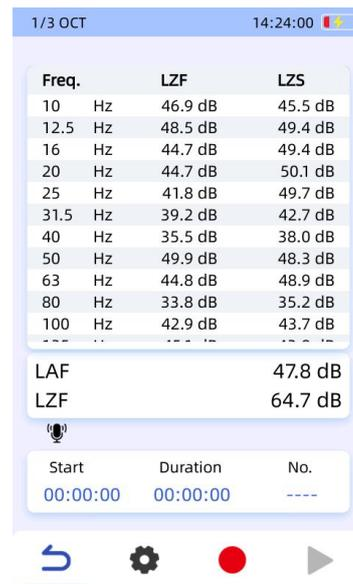

Fig 6.46 Data Mode
- a. Manual Mode: Users can manually start and stop measurements from the main interface. In this mode, as shown in Figure 6.46, the testing is controlled solely by the user, making any time settings in the testing